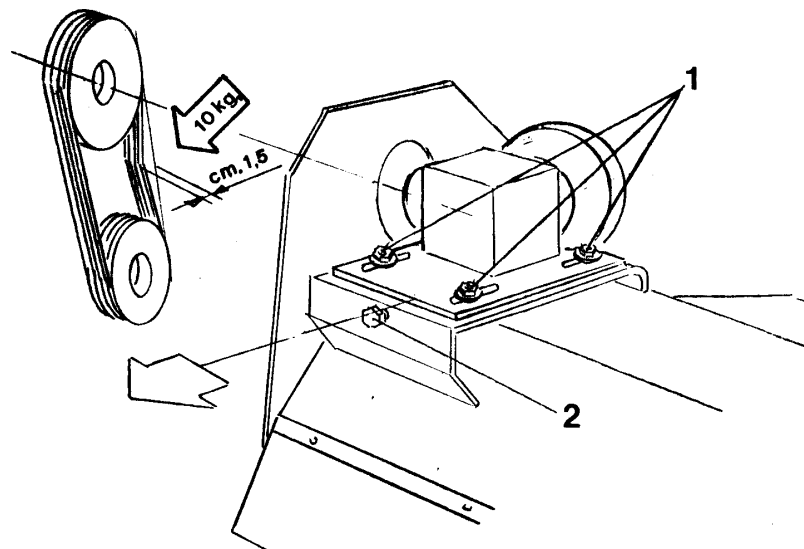

FIG. 20
Remove the belt guard (1), loosen the nut (3) and adjust the screw (2) to obtain a belt deflection of no more than 1.5 cm. with 10 Kg. pressure applied (see FIG. 20)